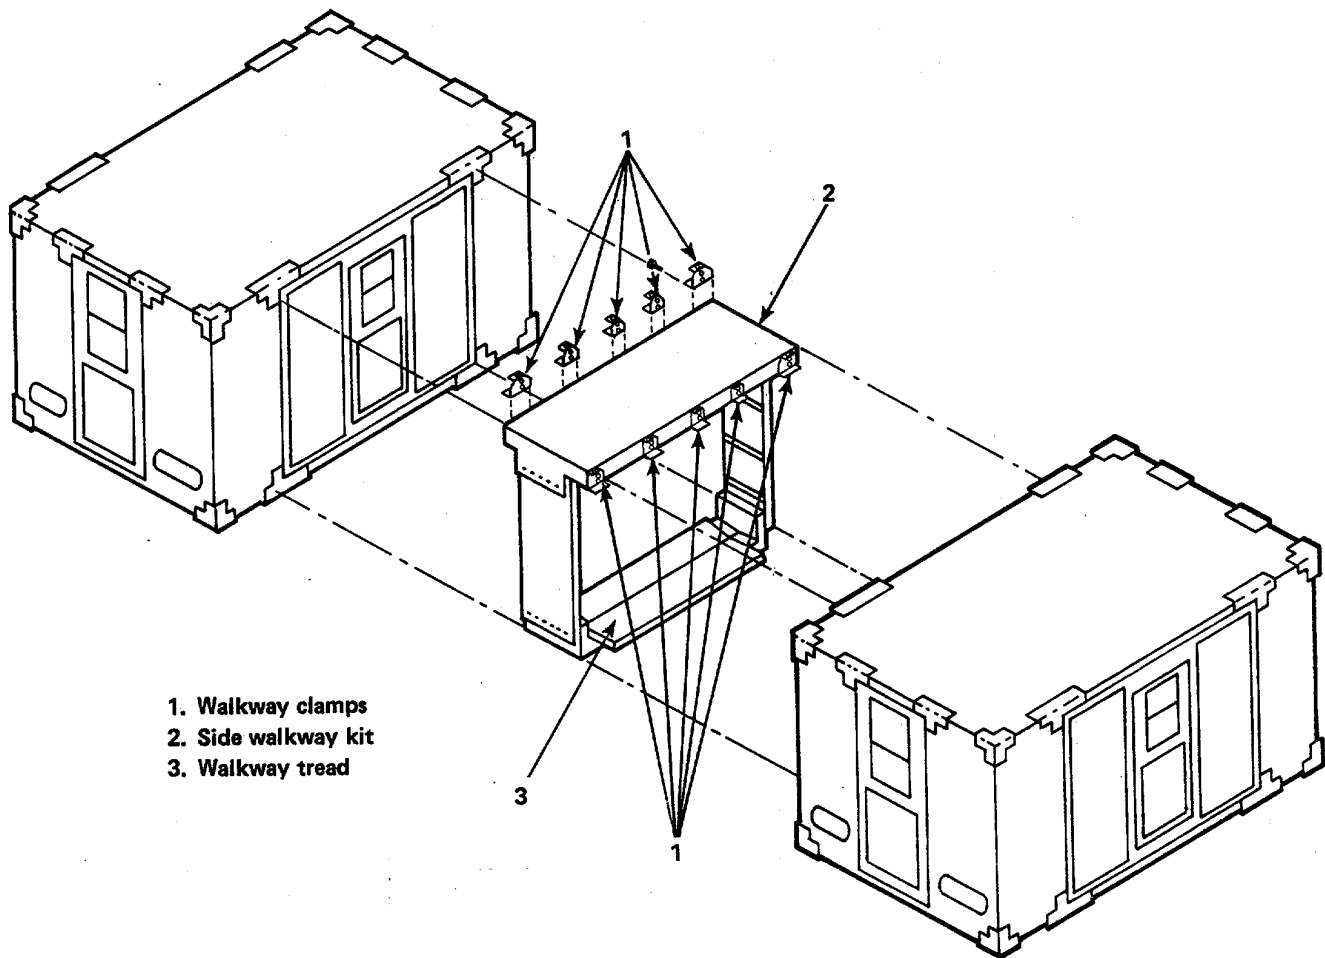

Figure 2-2. Walkway Kit
- (1) Remove walkway cover package from storage in shelter and separate into top, bottom, and two side sections (figure 2-2).
- (2) Rotate screw jacks on all sections to reduce width so gap is cleared between shelters.
- (3) Position bottom section in place, with lip pieces along bottom nesting around edge of panel opening extrusion. Rotate screw jacks to spread bottom section between shelters.